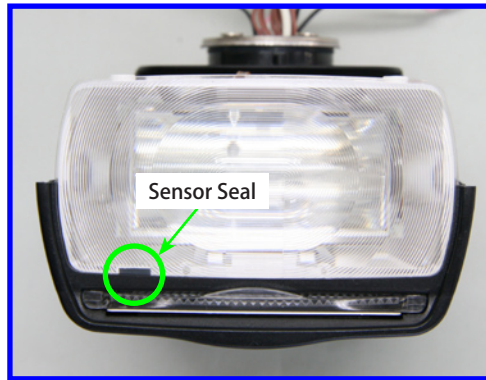

Fig. 026 Sensor Seal
- When installing the Fresnel Panel Ass'y, align the Fiber Wire attachment of the Flash Head with the Sensor Seal (silver colored) attachment of the Fresnel Panel Ass'y. (Fig. 026)